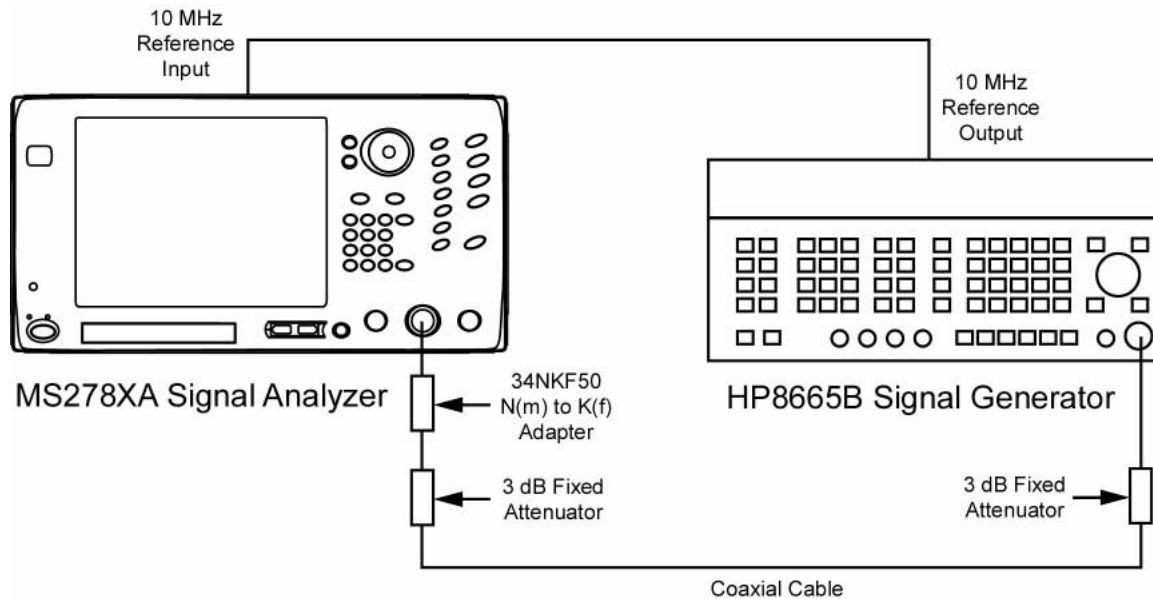

Figure 6-51. Equipment Setup for Input-related Spurious Response Test
- Step 1.** Set up the instruments as shown in Figure 6-51.